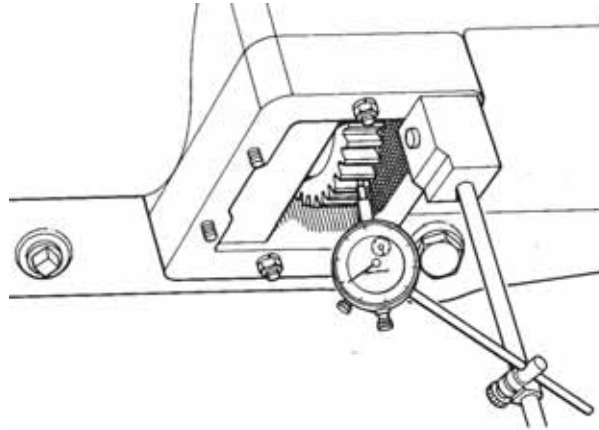

Figure 7 Checking PTO Adapter to Transmission Backlash
- c. Install a dial indicator onto the adapter housing (Figure 7) with the dial indicator plunger resting squarely on the adapter gear.